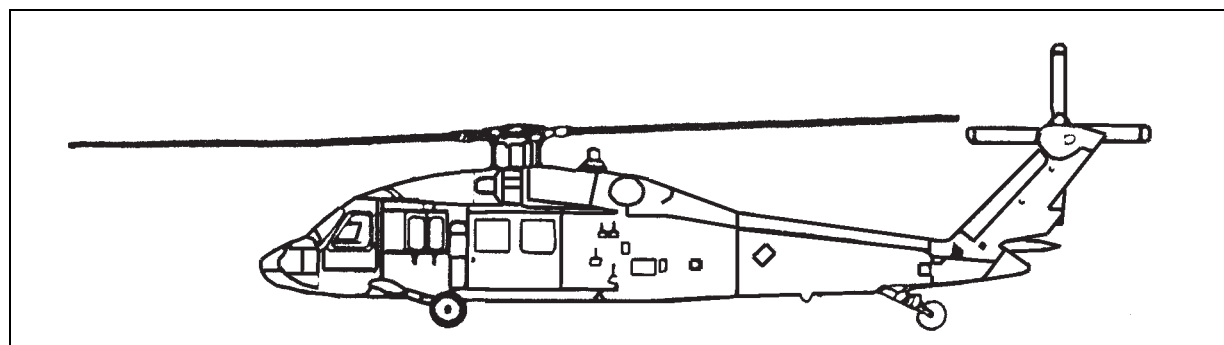

Figure 2-21. H-60 Blackhawk
- H-60 Blackhawk.** The H-60 (figure 2-21) is a twin engine, single main rotor helicopter manufactured by Sikorsky Aircraft. Its primary missions are search and rescue, to aerial deliver personnel, supplies, and equipment or perform antisubmarine warfare duties.